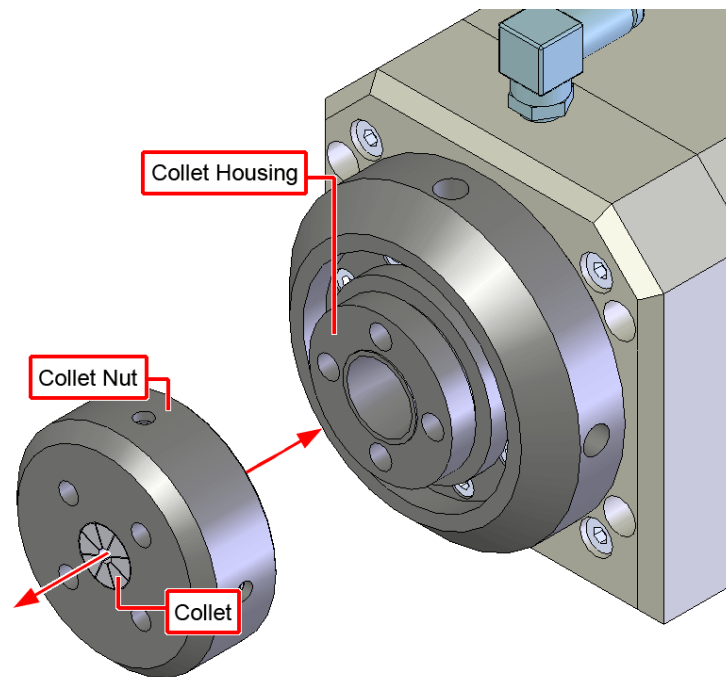

Figure 2-4: Installation Procedure for Collet/Collet Nut
6. Guide the collet using the nut into the stage (Figure 2-4) making sure that the collet seats properly in its taper. Be sure that air pressure is still being supplied to the stage so the collet chuck is in the open position.